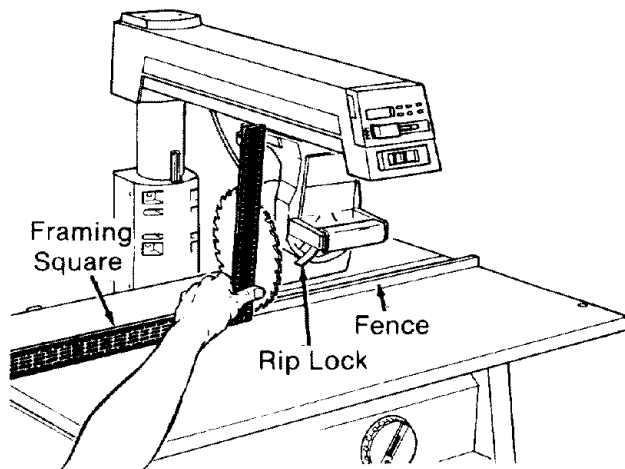

Fig. 80
5. Place the long edge of the framing square on the *table* and the short edge against the *blade*. Make sure that the square is against the blade surface and not the set of a tooth. (Figure 80).